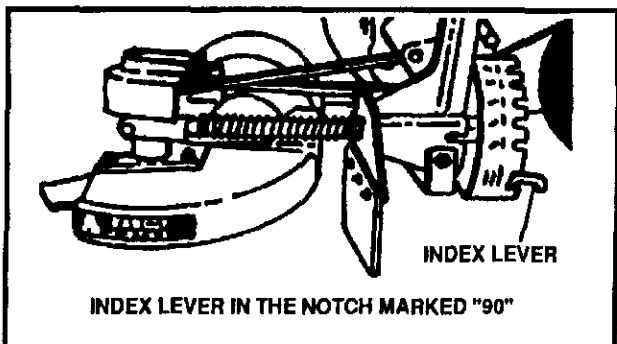

FIG. 7
- Pull the index lever out of its notch (See Fig 7) and position it in the notch marked 90°.